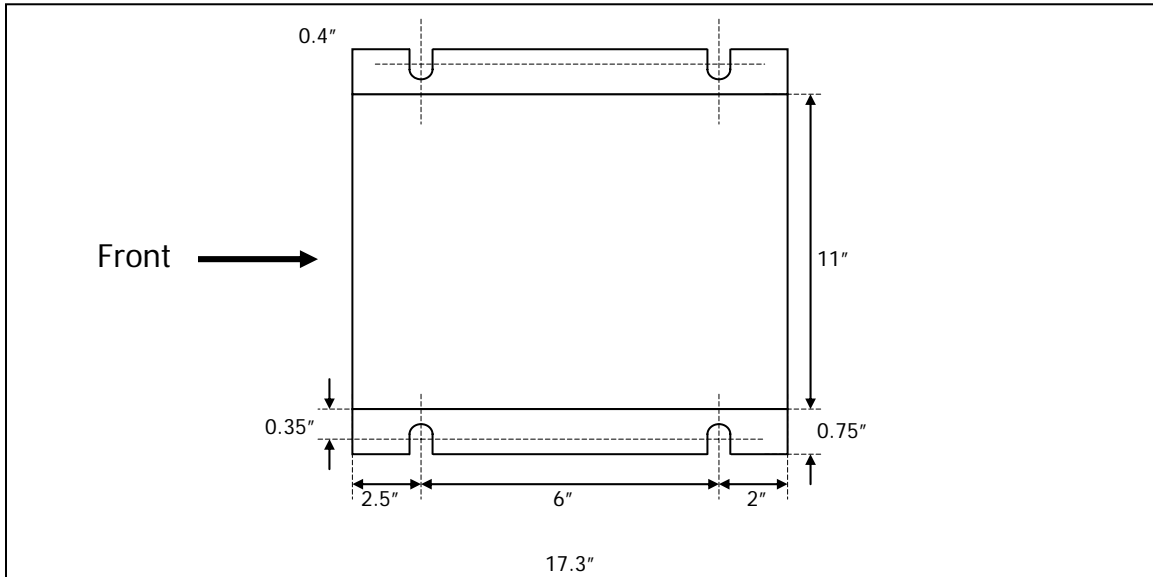

FIGURE 4: BBS Module footprint
- a) Locate the keyholes at the right and left side of the chassis flanges. See BBS module footprint on Figure 4 below.